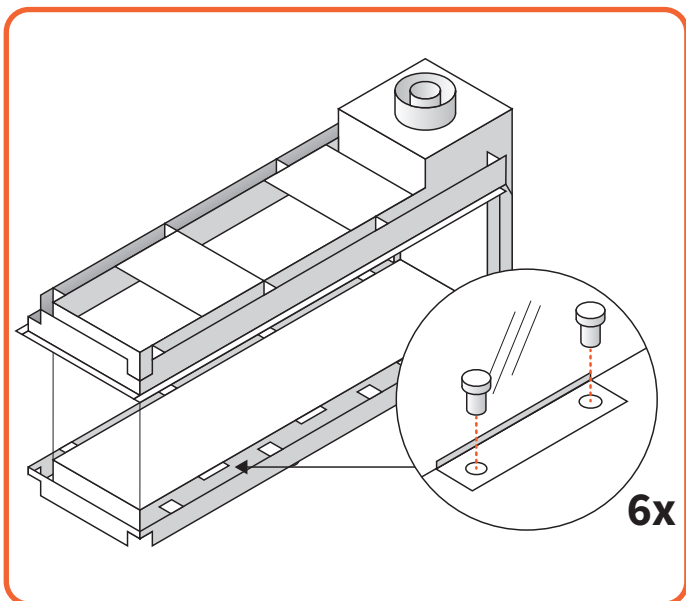

Figure 9.11 | Remove glass clamps
- Remove the glass clamps. (See Figure 9.11)